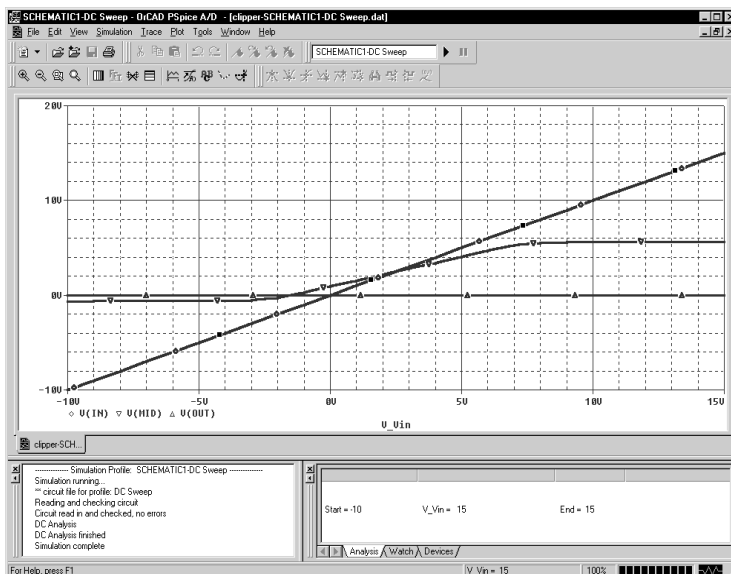

Figure 9 *Voltage at In, Mid, and Out.*
- 5 Switch to PSpice. The V(Out) waveform trace appears, as shown in Figure 9.